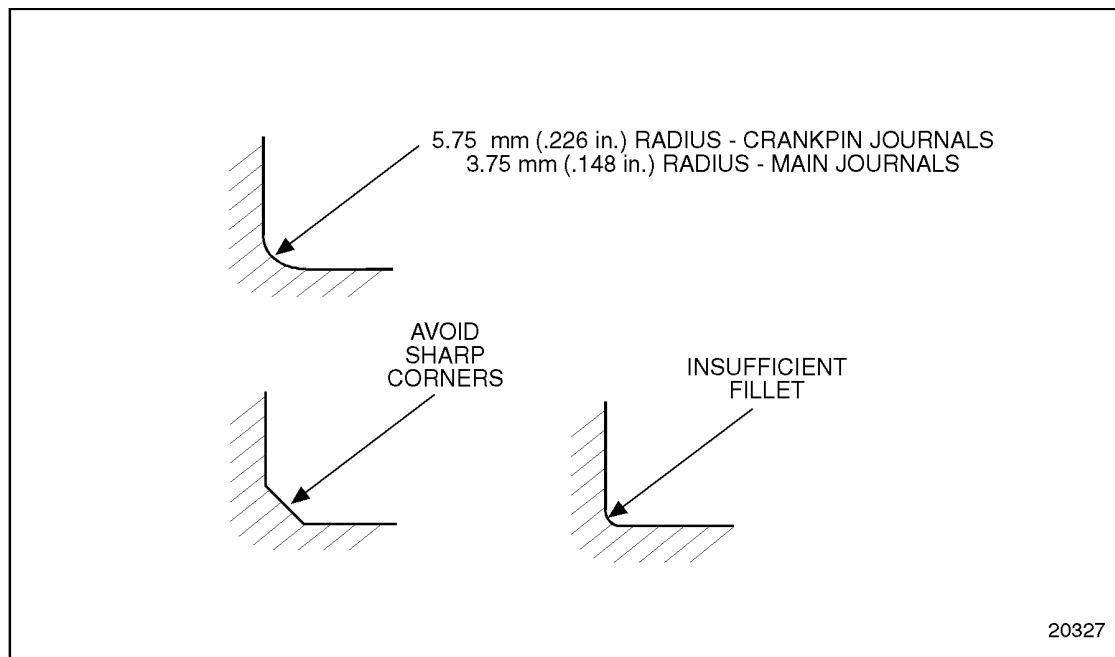

Figure 1-443 Crankshaft Journal Fillets
6. The radius may be checked with a fillet gage. See Figure 1-443.